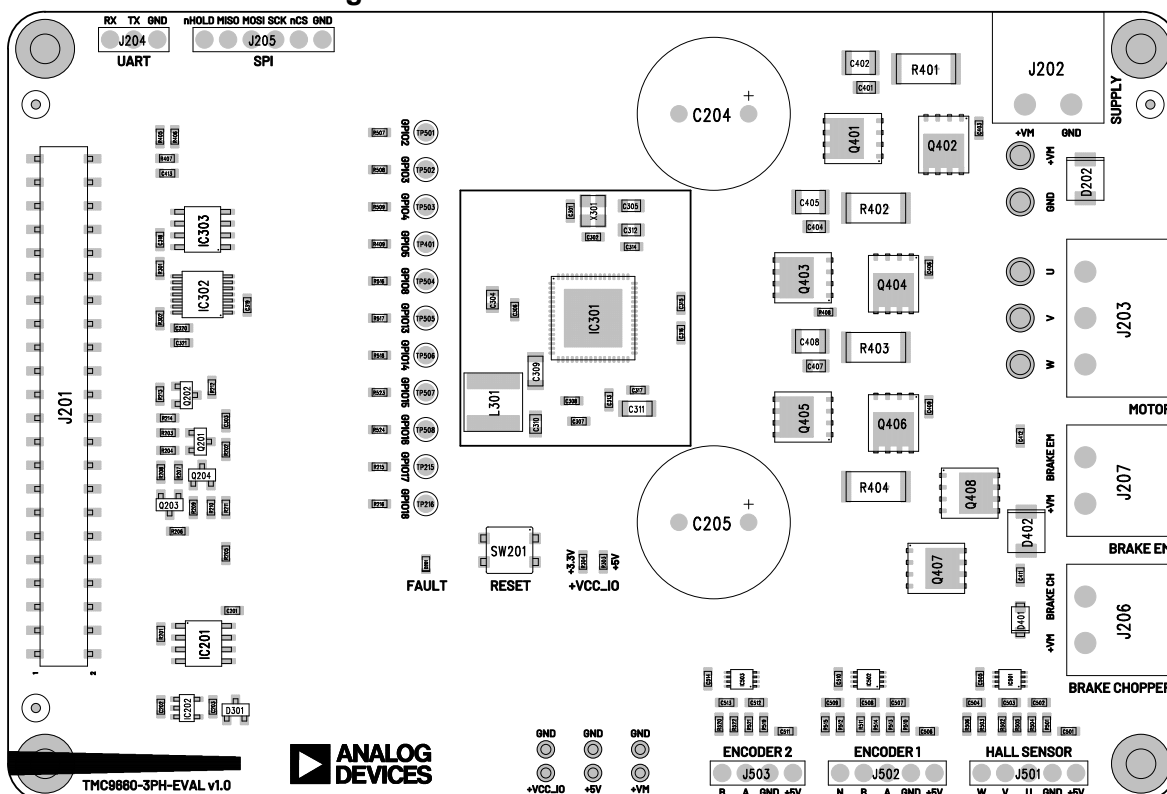

Figure 5. TMC9660-3PH-EVAL Component Placement and Silkscreen
2. Plug the selected motor to the Connector J203, labeled as *MOTOR* on the board's silkscreen (see Figure 5). Observe the correct order of the U, V, and W motor phases.
3. Plug the selected position feedback mechanism to the pin header J501, J502, or J503, labeled as *HALL SENSOR*, *ENCODER 1*, and *ENCODER 2*, respectively, on the board's silkscreen (see Figure 5). At least one position feedback mechanism is required, however, the three of them can be plugged and used simultaneously. However, note that of the ABN Encoders only ABN Encoder 1 can be used for motor commutation, while either of ABN Encoder 1 or Encoder 2 can be used for velocity or position feedback.
5. Plug the power supply cable to the Connector J202, labeled as *SUPPLY* on the board's silkscreen (see Figure 5). Make sure the power supply is off before connecting it to the board and that the polarity is correct.
The TMC9660-3PH-EVAL has four power connectors and five pin headers. These can be found in the component placement drawing in Figure 5 and are described in detail in the following table.
In addition to the connectors shown in Table 1, some unpopulated THM test points are available in the TMC9660-3PH-EVAL. See the component placement drawing in Figure 5. The additional connectors are described in the following table.
The TMC9660-3PH-EVAL includes a push button (SW201) labeled as *RESET* on the board's silkscreen, as seen in the component placement drawing in Figure 5. This button is tied to the RESETN pin of the TMC9660 and includes a 12kΩ pull-up resistor referenced to the 5.8V line, that is, the output of the TMC9660 internal buck regulator.